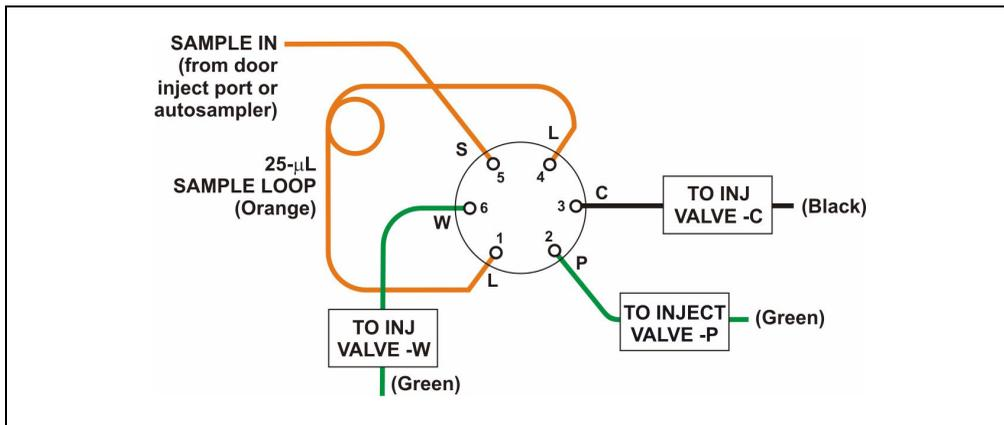

Figure 2-18. Injection Valve Plumbing
Figure 2-18 shows the injection valve connections. The injection valve is plumbed at the factory with all tubing and fittings for connection to the pump, injection port, column, and waste. A 25- μ L PEEK sample loop (P/N 042857) is installed between ports L (1) and L (4). Dionex offers